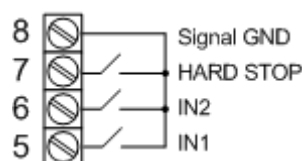

Fig. 3. External control elements connection
2. Connect external control elements according to the connection diagram schemes in Fig. 3: